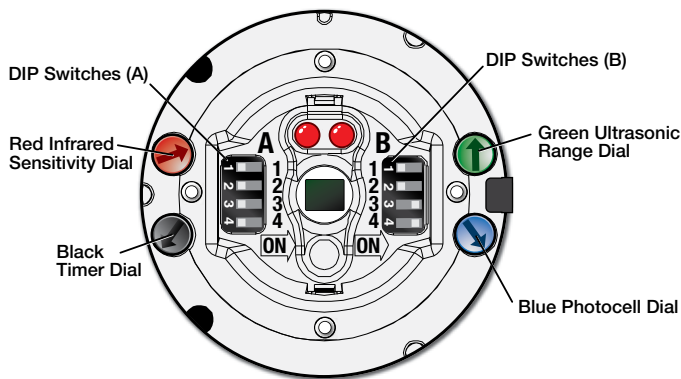

Figure 2. OCS 100C Controls
- **Blue Photocell Dial** (see figure 2 on the previous page) — The photocell prevents the sensor from turning on when the area is adequately lit with natural light and motion is detected. The sensor must be mounted directly over an area that is representative of the average, natural room lighting. Before setting the photocell control, wait until the natural light is brightest (optional). Adjust this dial to increase or decrease photocell sensitivity.